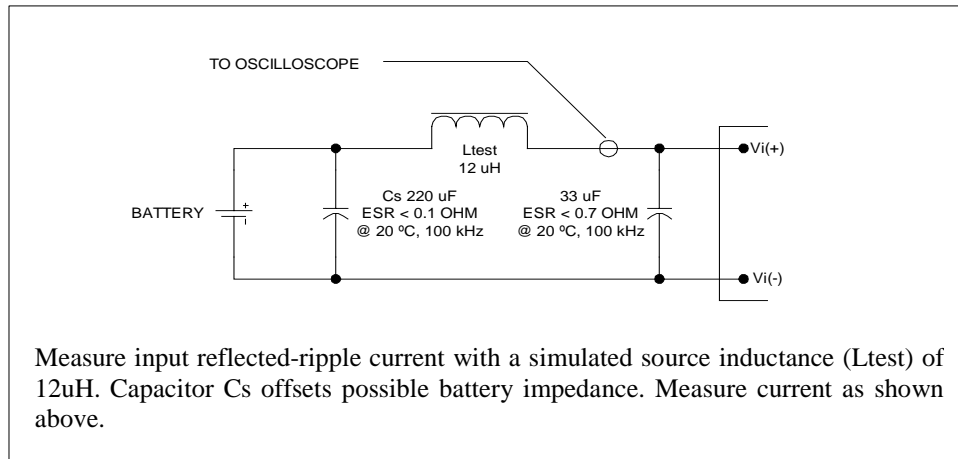

Figure 1. Input Reflected Ripple Current Measurement Setup.
2. Refer to Figure 1 for the external input capacitance required.